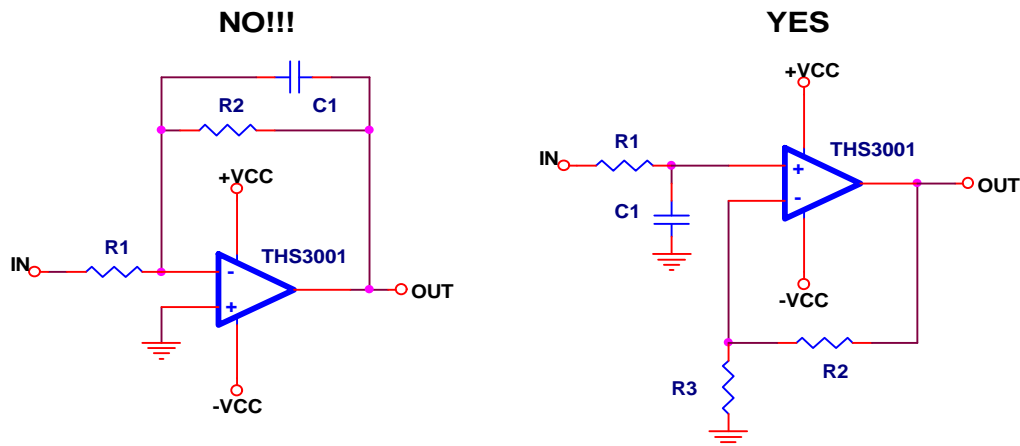

Figure 5. Low Pass Filter With a Current Feedback Op Amp
- Do *not* connect a capacitor from the output of a current-feedback op amp to the noninverting input. Designers will often do this when trying to implement a low-pass filter. Correct and incorrect ways to implement a low-pass filter with a current-feedback op amp are shown in Figure 5.